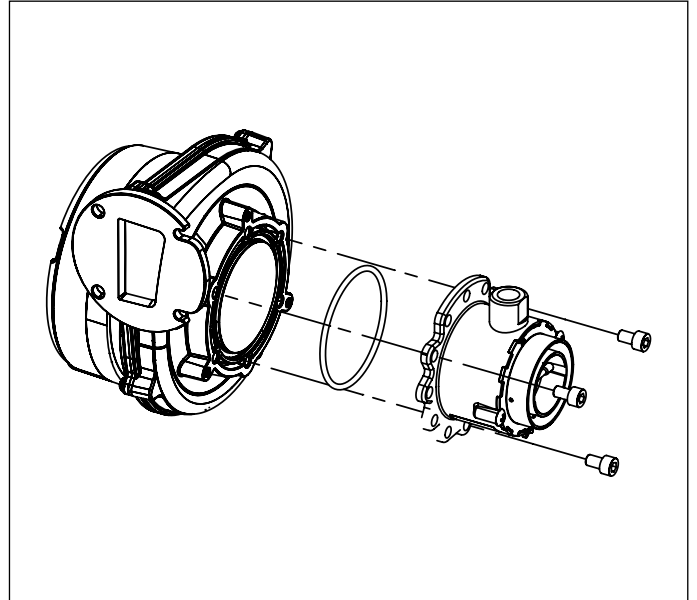

Fig. 33 Mixer
- Loosen the three socket head screws, and remove the mixer (see Fig. 33 Mixer).